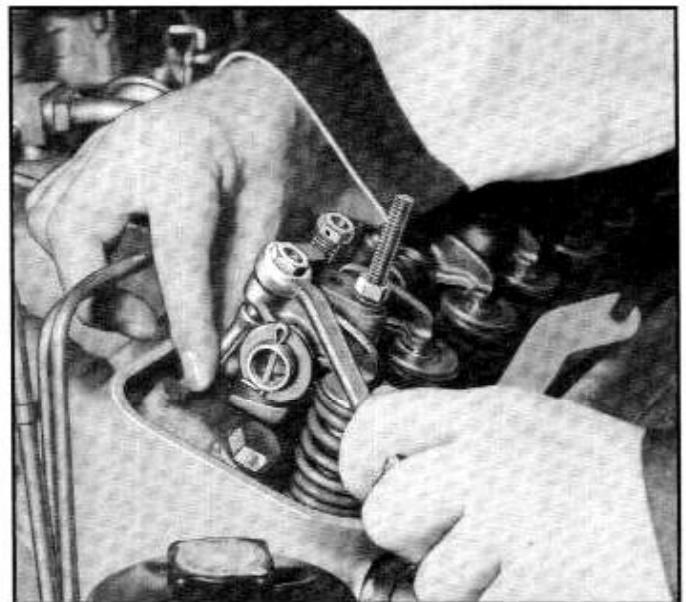

Fig. 6C-73—Valve Clearance Adjustment
c. Make three chalk marks on the crankshaft damper. Space the marks approximately 90° apart so that with the timing mark, the damper is divided into four equal parts (90° represents $1/4$ of the distance around the damper circumference). See figure 6C-72.